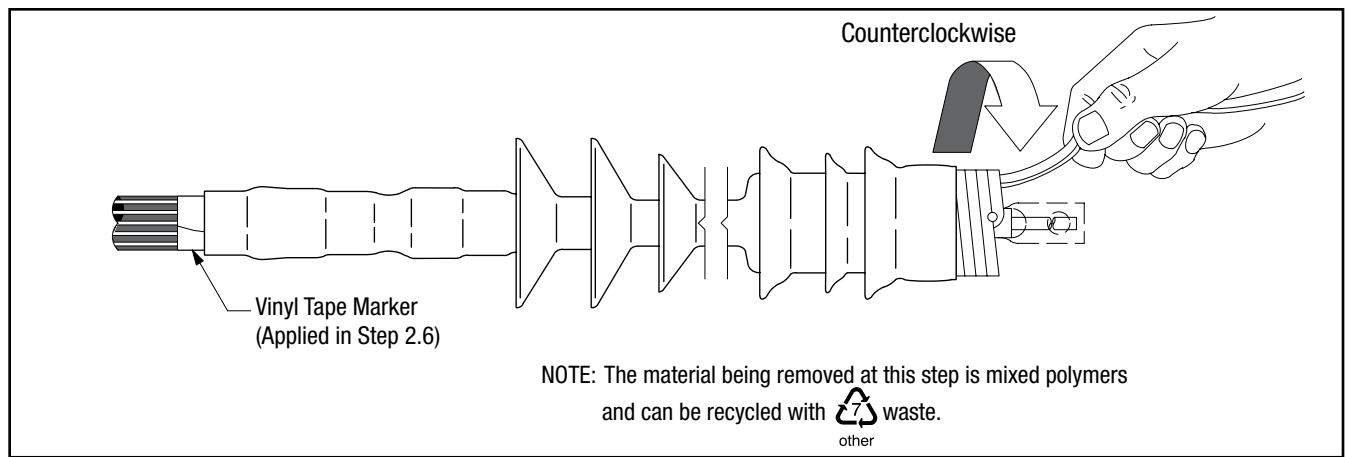

Figure 5
- 5.1 Slide the termination body onto the cable and remove core.** Make sure the termination body (not the core) is butted up to the edge of the vinyl tape marker previously applied (Figure 5). Pull the core while unwinding, counterclockwise, starting with the loose end (Figure 5). Be sure to alternate the pulling and unwinding actions (pull-unwind-pull-unwind-etc.) to help prevent the core material from binding up as the core is being removed.